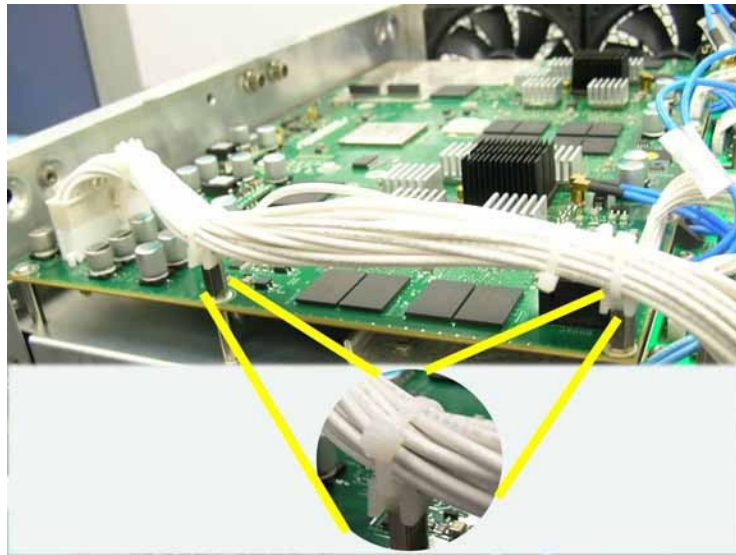

Figure 29: Cable ties
Installation. To install, reverse this procedure. (See Figure 29.)
3. Use a wire cutter to remove the two cable ties. (See Figure 29 on page 63.)